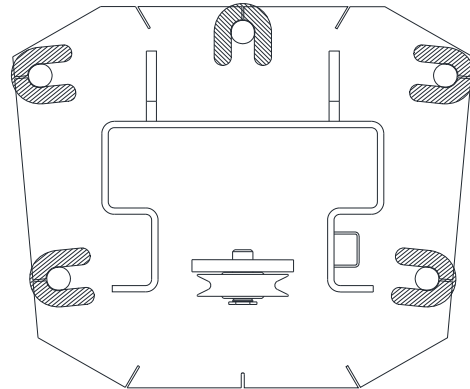

Fig 5 - Column Shimming
- 21) Check Idler Column shimming. Use additional shims (**see Fig 5**) to remove any gaps that may have been created while installing Overhead. Repeat steps 8-12 for the Idler Column anchoring.